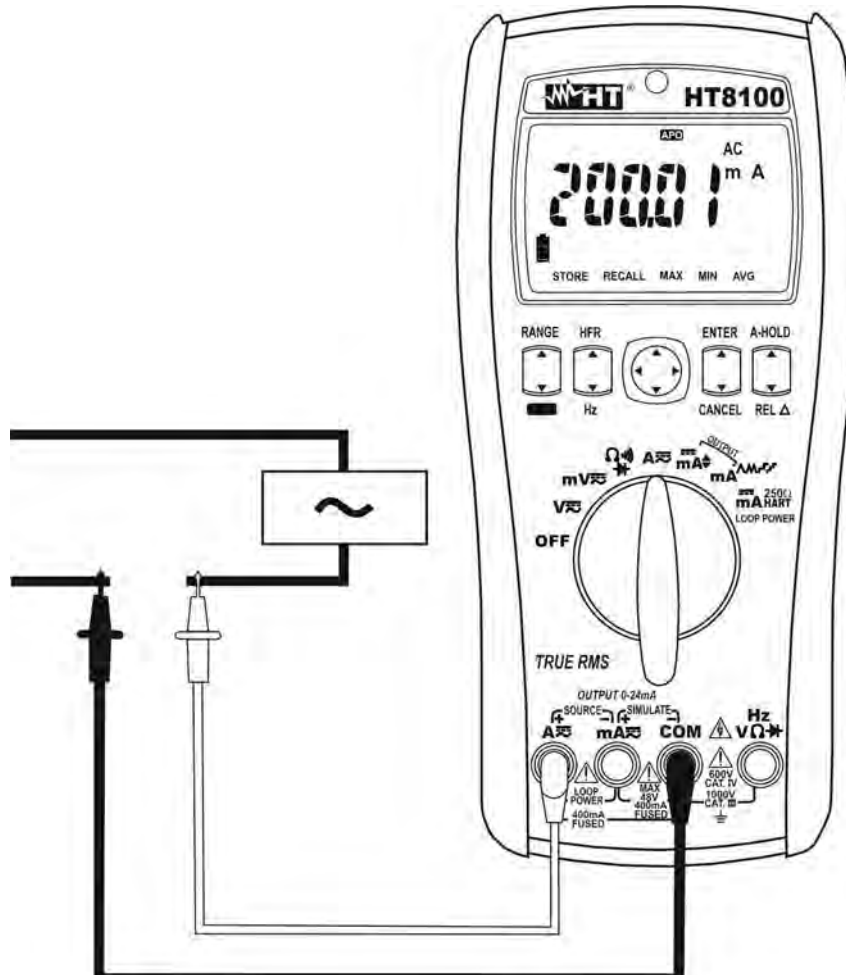

Fig. 5: Use of the instrument for AC current measurement
5. Connect the red lead and the black lead in series to the circuit whose current you want to measure (see Fig. 5)